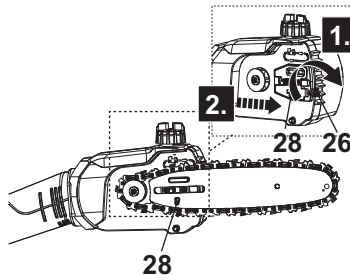

Fig. 9
8. Screw the tension screw (26) with the multi tool (31) clockwise out to adjust the tension pin (28) / guide bar (19) towards the right to tighten the saw chain (20) (Fig. 9).